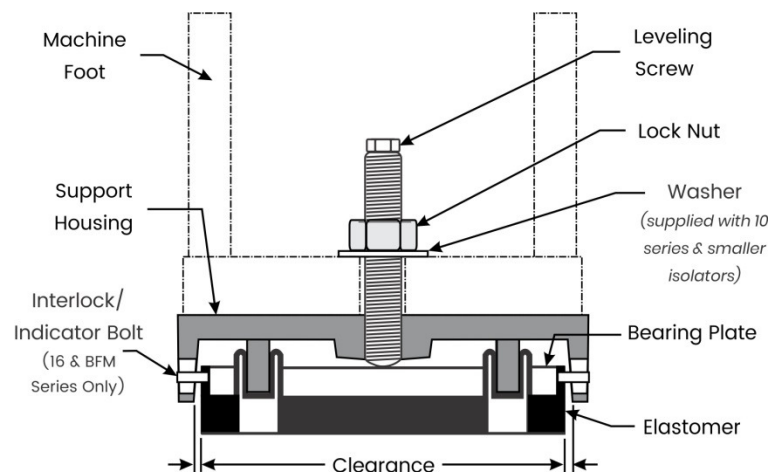

Figure 2 (Cutaway View)
5. Thread the leveling screw into the isolator by hand or with a small wrench. The leveling screw should turn easily into the isolator housing until it contacts the internal bearing plate (see Figure 2). If it does not, remove the leveling adjustment screw and check for proper clearance, damaged thread, or debris in the threaded hole.
- For proper isolator performance, there should be clearance between the resilient cushion (elastomer) and the inside surface of the isolator's support housing as shown in Figure 2. If there is not clearance, lift the machine at that location and center the resilient cushion in the isolator housing.